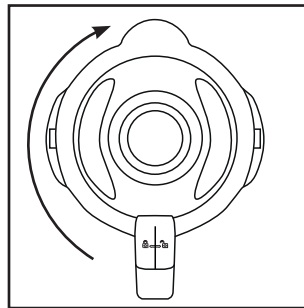

Fig. 2
- 4) Press the lid **2** firmly down onto the blender **3**. Close the lid **2** by turning it clockwise to position  until it audibly engages (see Fig. 2). Ensure that the pouring spout on the blender **3** is closed. The motor cannot start until the lid **2** is fitted flush.